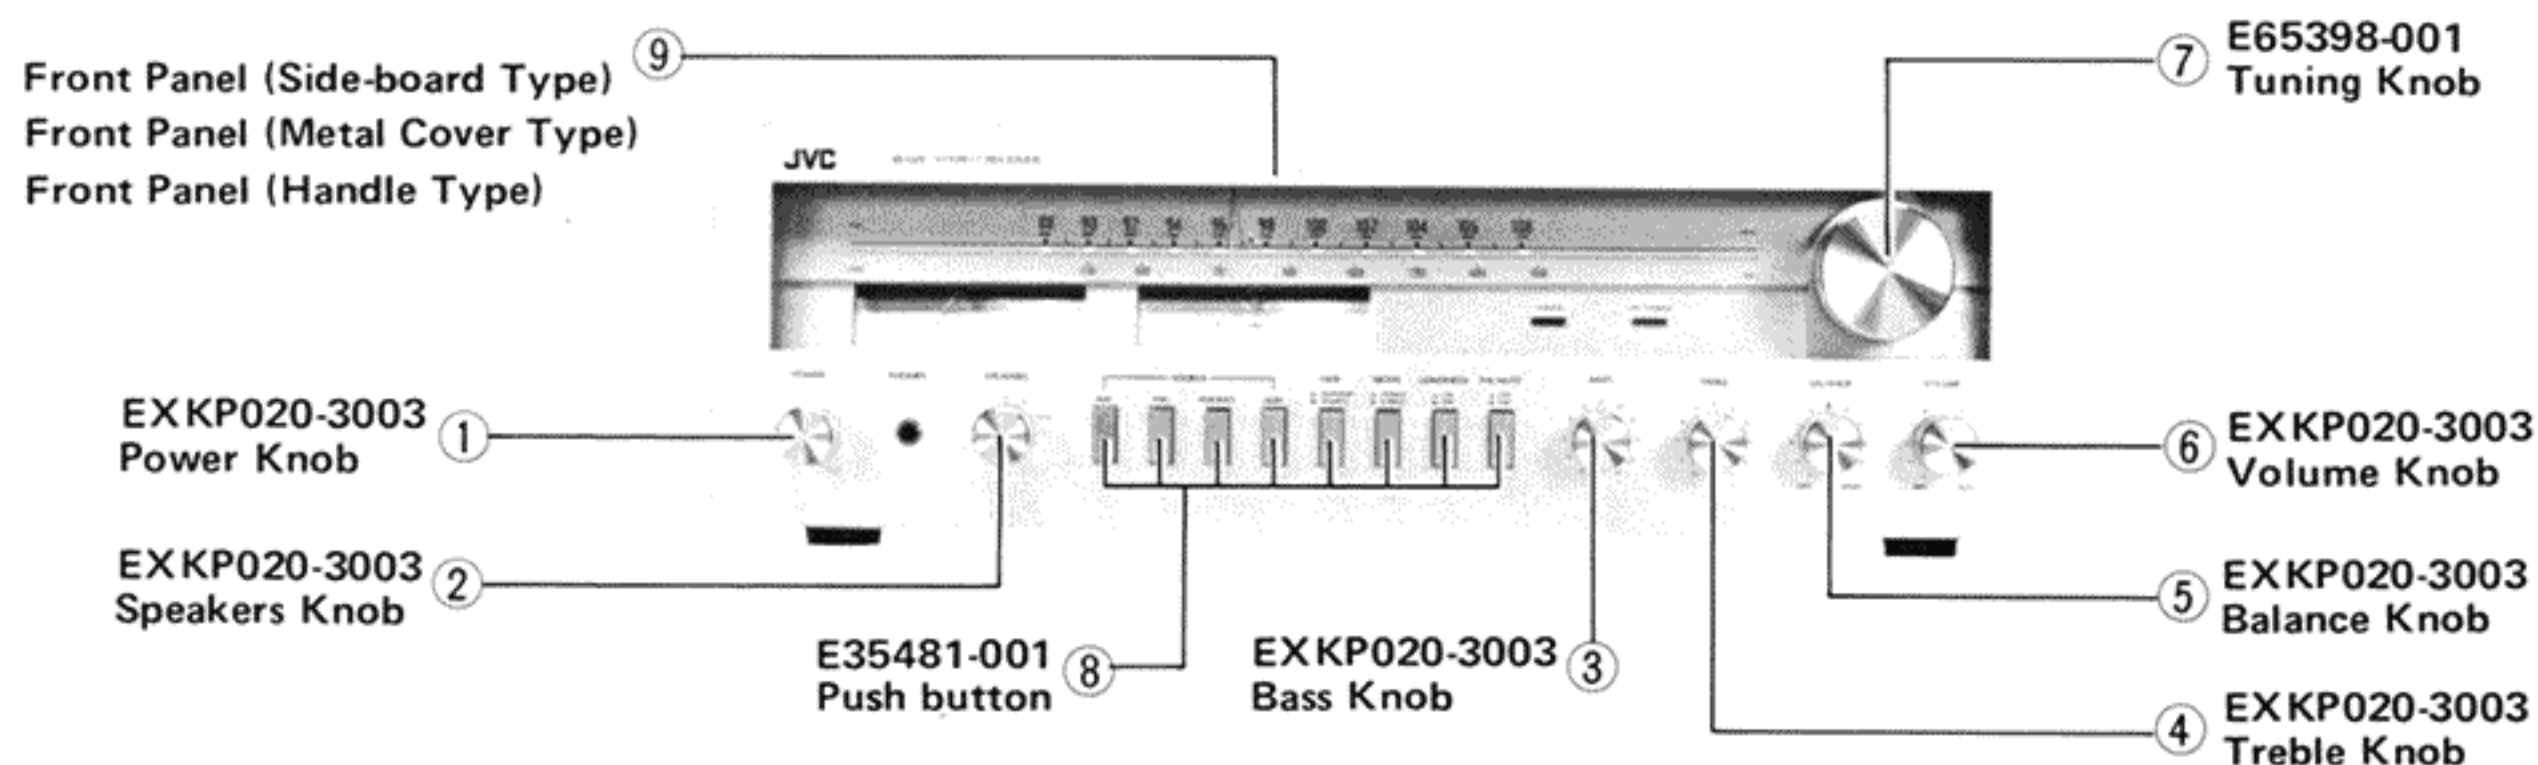

Fig. 4
2. Pull out the knobs item no. 1 through no. 7 carefully. Refer to Fig. 4.